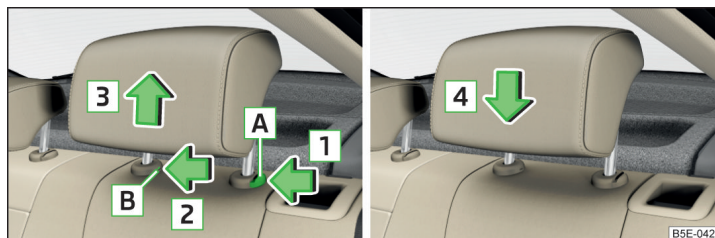

Fig. 91 Removing/inserting the rear headrests
- Hold the locking button **A** in the direction of arrow **1**, at the same time using a flat screwdriver with a max. width of 5 mm to press the locking button in the opening **B** in the direction of arrow **2** and pull out the rest in the direction of arrow **3** » Fig. 91.